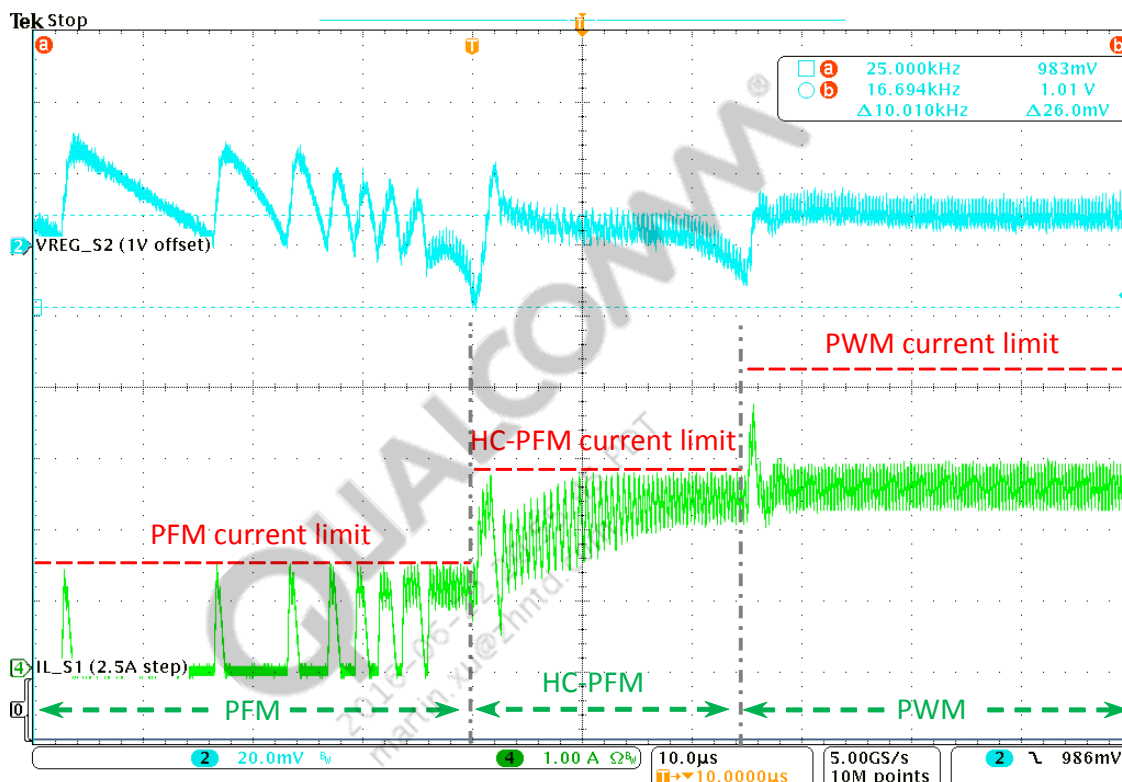

Figure 8 Waveforms of FT-SMPS during HC-PFM operation
- **Figure 8 – FT-SMPS during HC-PFM**
- The PMIC registers for current-limits and their set-point values are QTI-proprietary and not shared. Current limits shown in Figure 8 have been altered from their original values to illustrate the HC-PFM concept.